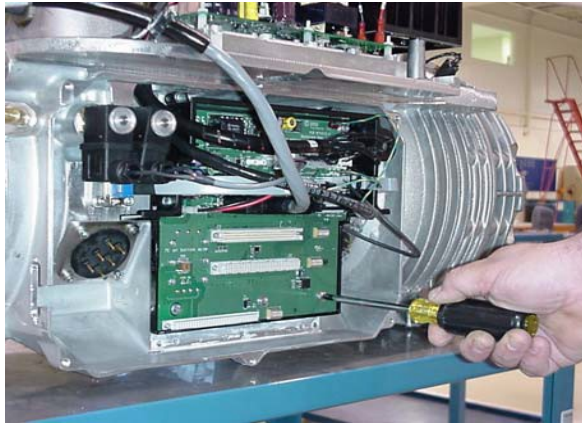

Figure 3 - Removing the Backplane Frame Ground Screw
2. Remove the screws (including the frame ground screw at bottom right) that secure the Backplane to the service-side housing. Refer to Figure 3.
3. Insert and tighten frame ground screw at the bottom right of the Backplane. See Figure 3.